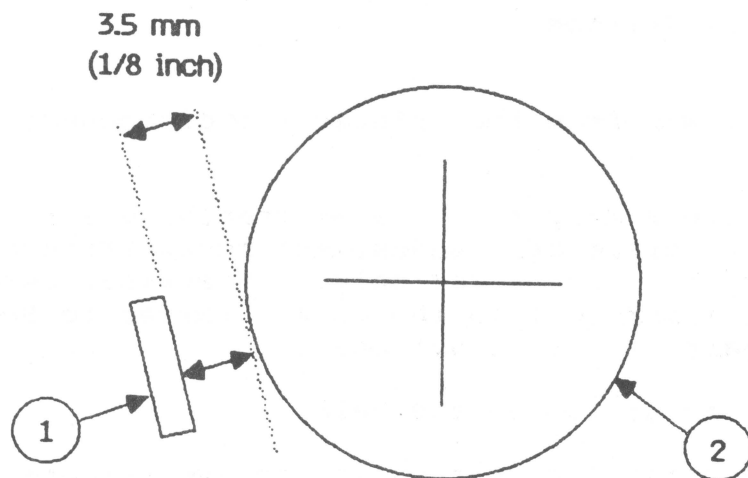

Figure 5
3. Measure the distance between the print head (Figure 5, #1) and the platen (Figure 5, #2). The gap should be 3.5 mm, + or - 0.5 mm (about 1/8 inch).